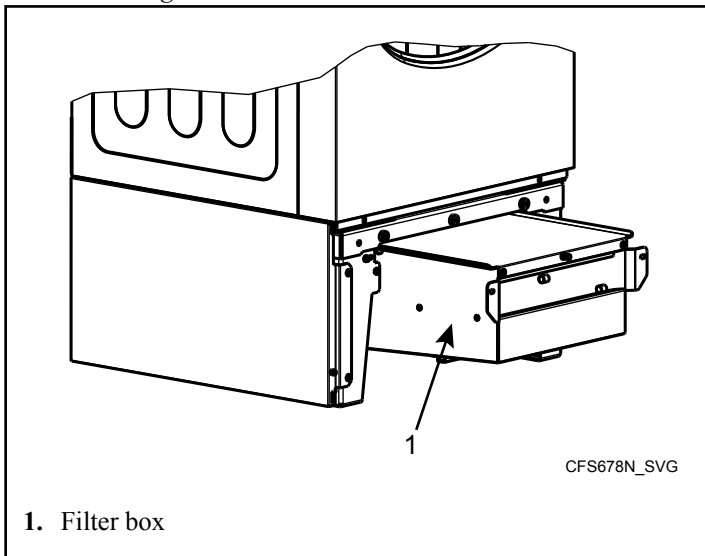

Figure 60
- Carefully push the box forwards along the line to remove it. Refer to *Figure 60*.